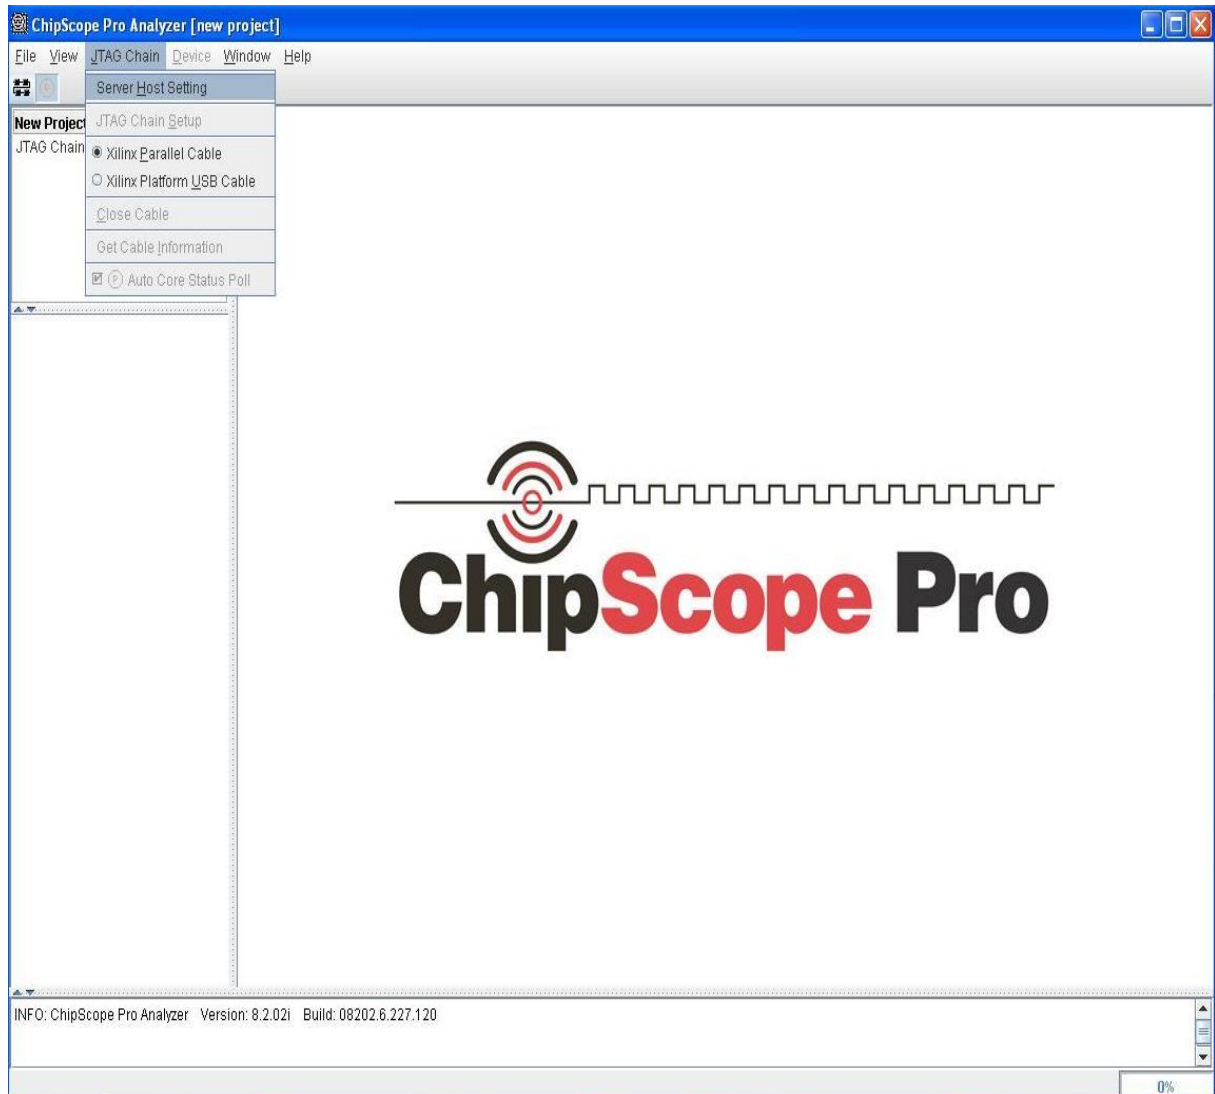

Fig 4.1: Server Host Setting
2. The analyzer's client application needs a connection with the server. To do that, select the **JTAG Chain** and click on **Server Host Setting** as shown in Fig 4.1.